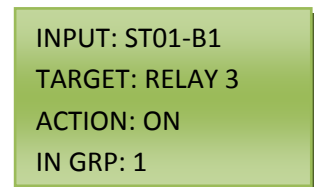

Figure 8.4
5. If the Control Station is to be left alone and not mistakenly turned ON or OFF, then press the DOWN Arrow so the cursor is on the colon between the words IN GRP and NONE. Press either the LEFT or RIGHT Arrow to select the IN GROUP. See Figure 8.4 for a visual example.